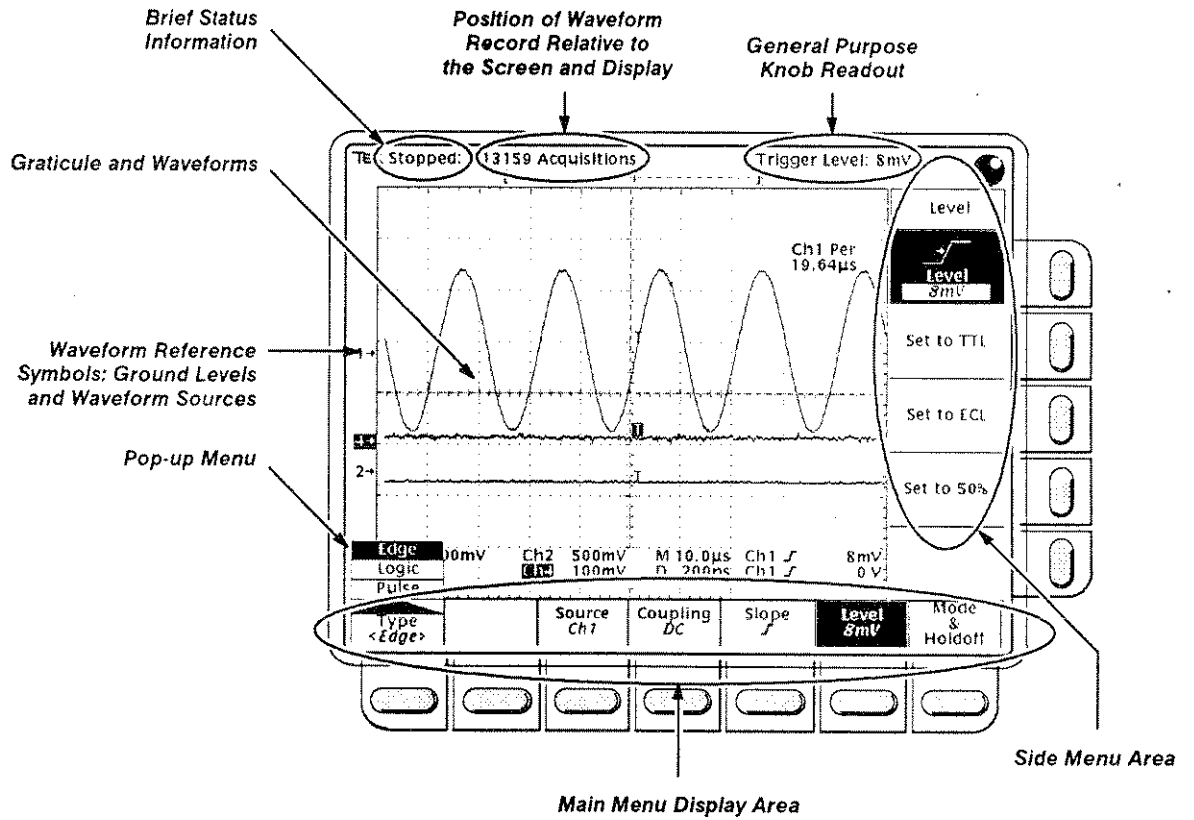

Figure A-1: Map of Display Functions
- Refer to Figure A-1. "Main menu" refers to the menu that labels the seven menu buttons under the display; "side menu" refers to the menu that labels the five buttons to the right of the display. "Pop-up menu" refers to a menu that pops up when a main-menu button is pressed.
- The vertical scale readout for the channel under test shows a setting of 100 mV, and a square-wave probe-compensation signal about five divisions in amplitude is on-screen. (See Figure A-1 on page A-29 to locate the readout.)